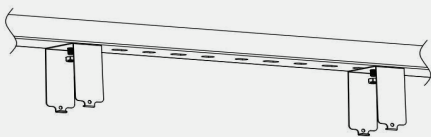

Figure 5
Step1. Mount the bracket on the rail or ceiling; (Figure 5)